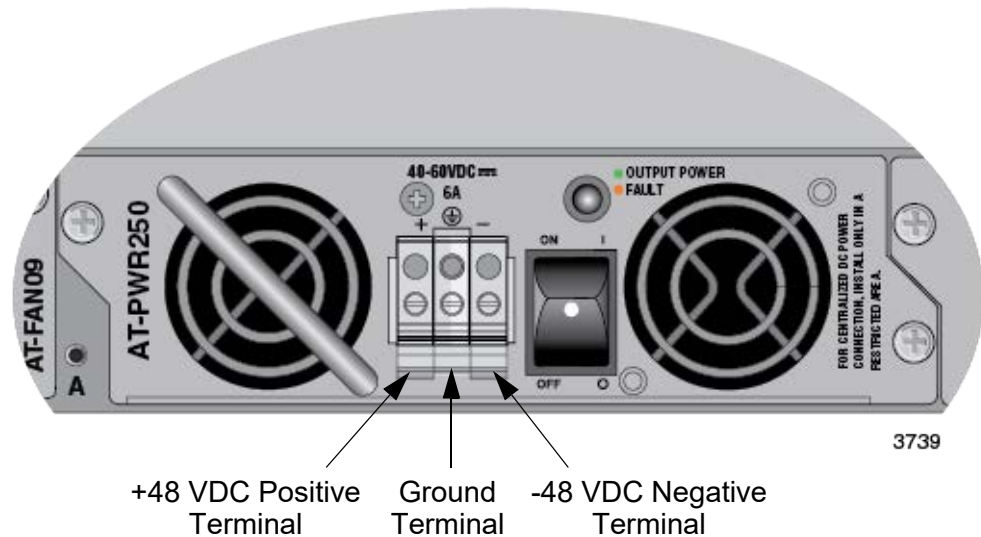

Figure 56. DC Terminal Block
3. Use the legend above the terminal block to identify the terminals. The terminals are **positive**, **power supply ground** and **negative**, from left to right, as shown in Figure 56.